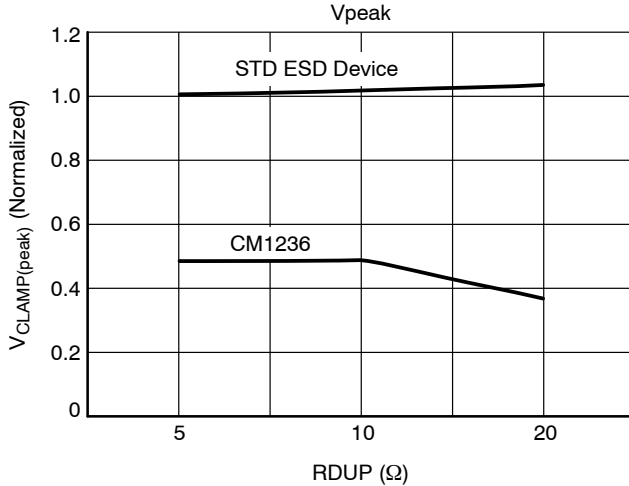
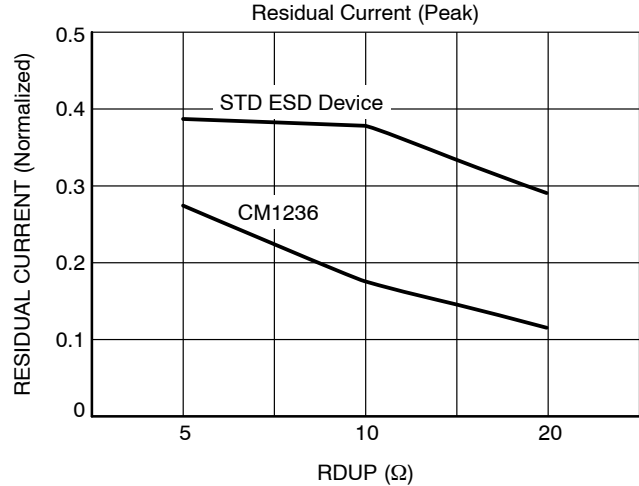
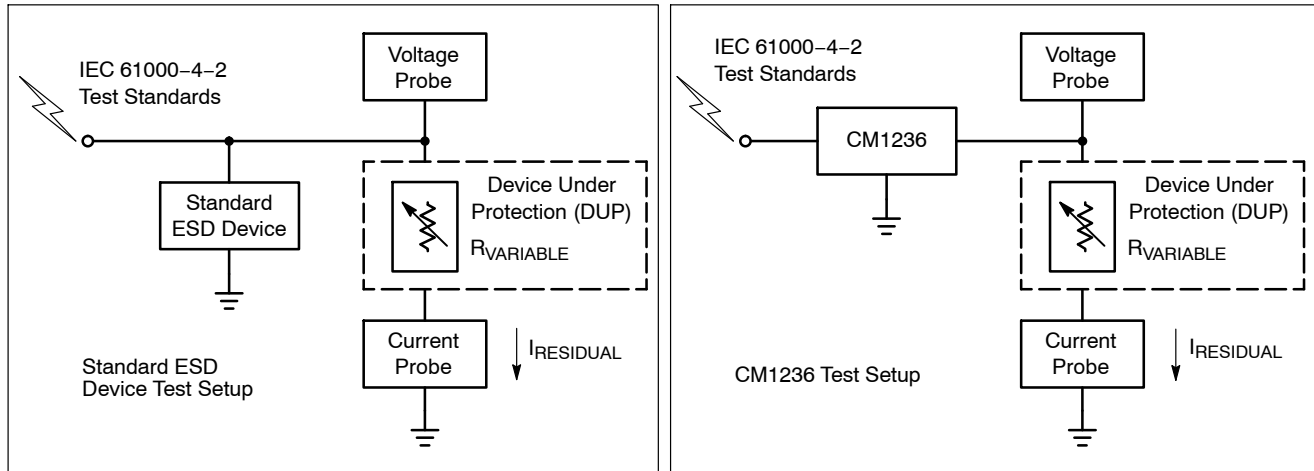

Figure 5. V_{CLAMP} vs. RDUP* (ASIC) – 8 kV Contract Strike
Figure 6. I_{RESIDUAL} vs. RDUP* (ASIC) – 8 kV Contract Strike
Figure 7. Test Setups: Standard Device (Left) and CM1236 (Right)
2. Impedance values for deviation from continuous 100 Ω uncompensated differential microstrip, with typical layout as measured via TDR with 200 ps effective incident risetime. See Figure 7.
Figure 5 shows that the CM1236 (ESD protector) lowers the peak voltage and clamping voltage by 45% across a wide range of loading conditions in comparison to a standard ESD protection device. Figure 6 also indicates that the DUP/ASIC protected by the CM1236 dissipates less energy than a standard ESD protection device. This data was derived using the test setups shown in Figure 7.
*RDUP is the emulated Dynamic Resistance (load) of the Device Under Protection (DUP). See Figure 7.